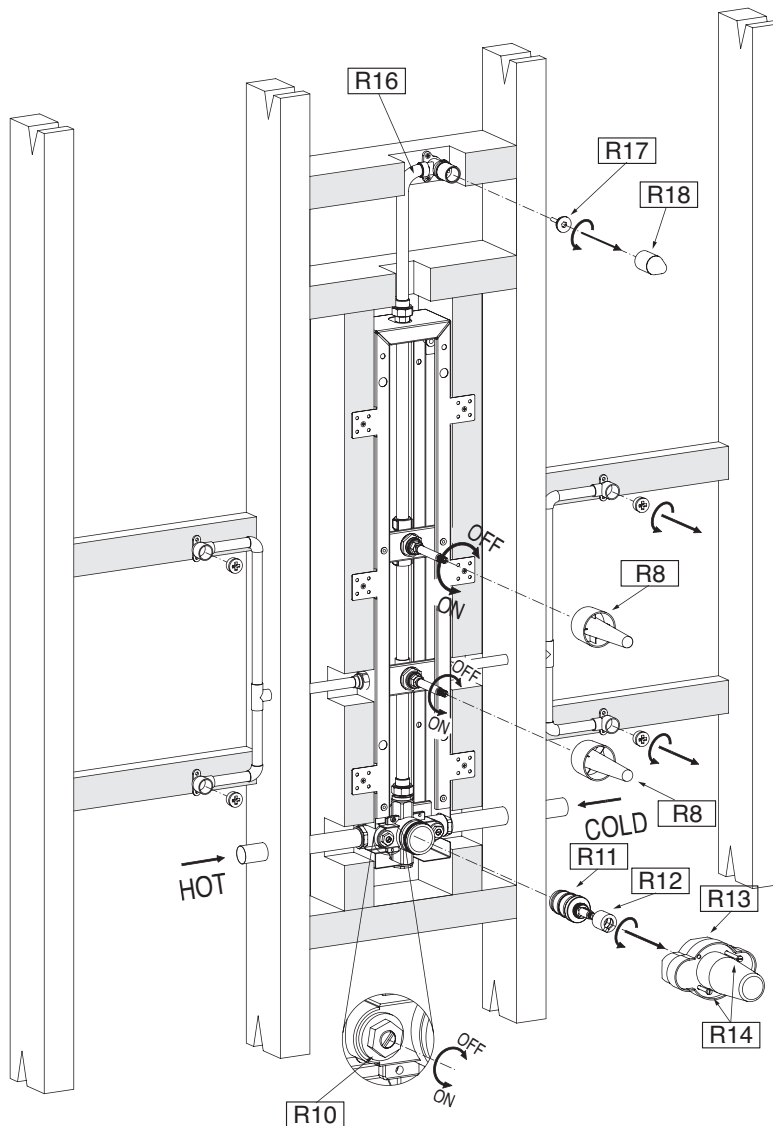

FIG. 6
See fig. 6
- Remount thermostatic cartridge (**R11**) to valve body. Tighten the cartridge (**R11**) using adjustable wrench. Do not over-tighten. Replace the temperature limiting ring (**R12**) on the mixing valve spline as shown on fig. 6.
Vea fig. 6